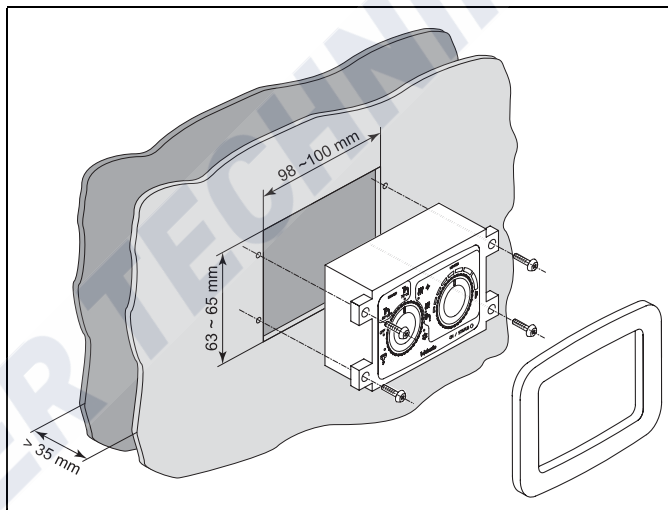

Fig. 50: Installing manual heater control
- Drill a hole at the desired installation location (see Fig. 50).